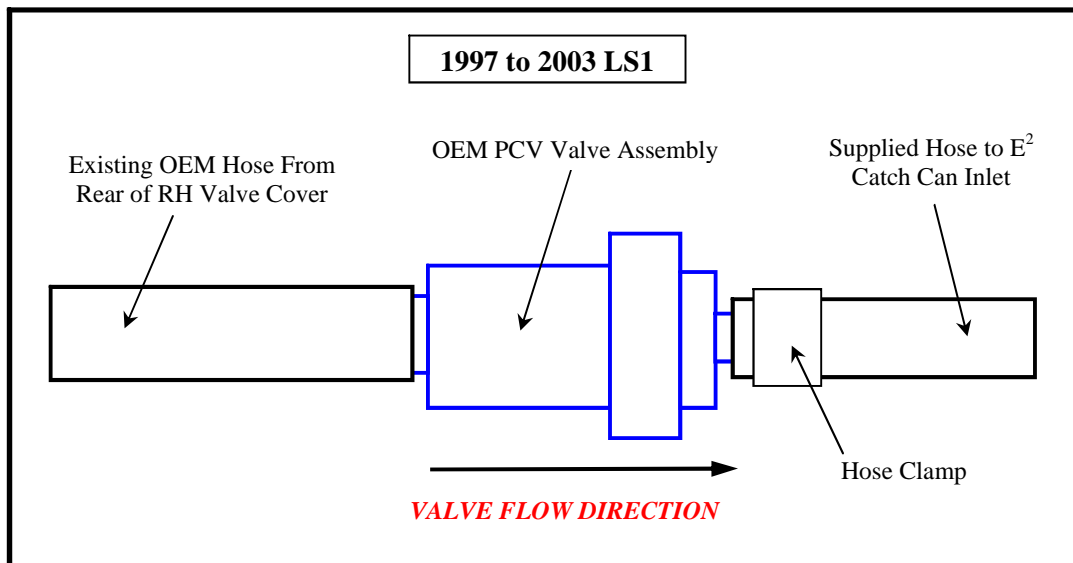

Figure 2 – LS1 PCV Valve Configuration
- (**Reference Figure 2**) Slide a supplied hose clamp over each end of the hoses cut above. Connect the hose from the OEM PCV valve to the Catch Can inlet fitting (top location). Connect the other hose from the Catch Can outlet fitting (side location) to the intake manifold hose fitting. Reposition hose clamps to ensure a good seal.